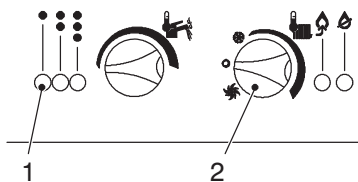

Figure 1
6. Wait five (5) minutes to clear out any gas. Then smell for gas including near the floor. If you smell gas STOP! Follow “B” in the safety information above on this label. If you don’t smell gas, go to next step.
8. Turn on the electricity supply to the boiler, switching on the circuit breaker. The appliance operation light 1 (figure 1) will flash every 4 seconds (stand-by condition).
2. Turn the boiler off by setting the function selector 2 to the position shown in figure 1.